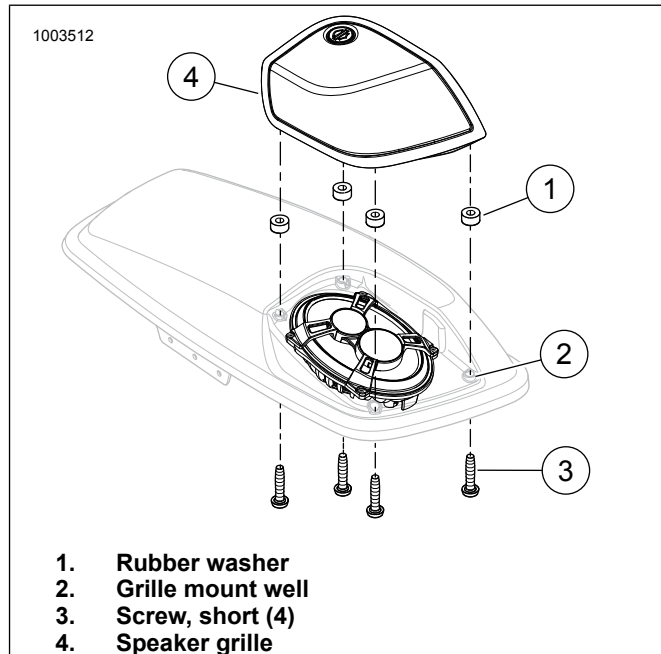

Figure 10. Grille Installation and Removal
2. See Figure 10. Place rubber washers (1) into the grille mount well (2).
3. Verify rubber washers (1) are in place. Place the speaker grille (4) into position over the speaker face. Secure with the four short screws (3). Alternately tighten the screws to: